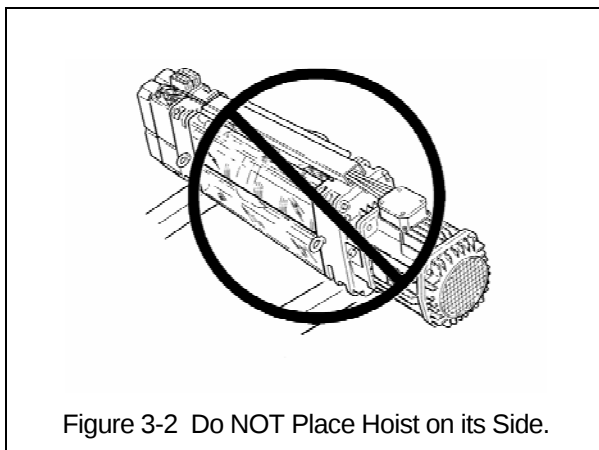

Figure 3-2 Do NOT Place Hoist on its Side.
- 3.2.1 Transportation – Move the trolley hoist utilizing a fork lift, pallet jack or hoist/crane system. Do NOT place the trolley hoist on its side (see Figure 3-2). Do NOT stack or place anything on top of the trolley hoist or crate. Avoid swinging and unbalanced conditions (see Figure 3-3).